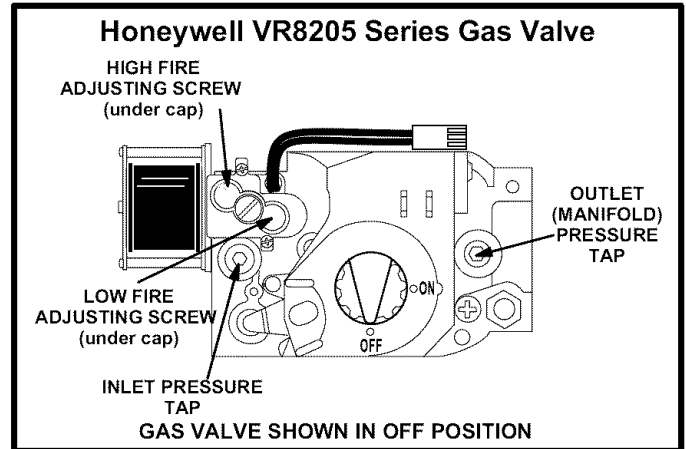

Figure 13
- 3 - Turn the gas valve knob to the ON position. Refer to figure 13.
Measure manifold pressure: Shut off gas supply to the unit. Remove plug from pressure tap. See figure 13. Connect manometer or gauge to the proper pressure tap, then turn on the gas supply.